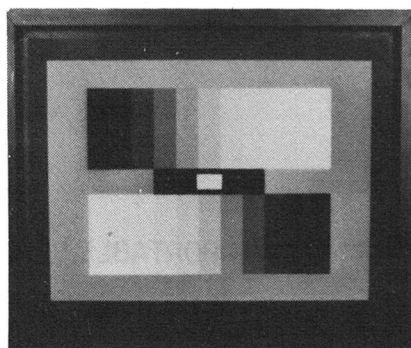

Fig 7.3 Grey-scale Pattern
- * Grey-scale pattern with $\gamma = 2.2$ (with 3:4 aspect ratio) and 11 steps (see Fig 7.3)